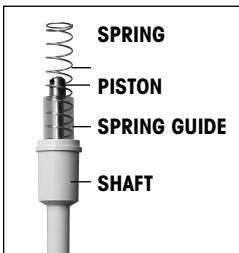

FIGURE 6A REPLACING THE LIQUID END (1)
1. The replacement liquid end is supplied in a clear plastic tube together with a second tube holding the matching tip ejector and encoder plug. Make sure you have all three components. The spring and spring guide extend from the liquid end as shown in Figure 6A. It is a good idea to pull back the spring and spring guide so that the ball-joint and socket connection area is clear, to help in reattaching the ball-joint to the piston shaft.